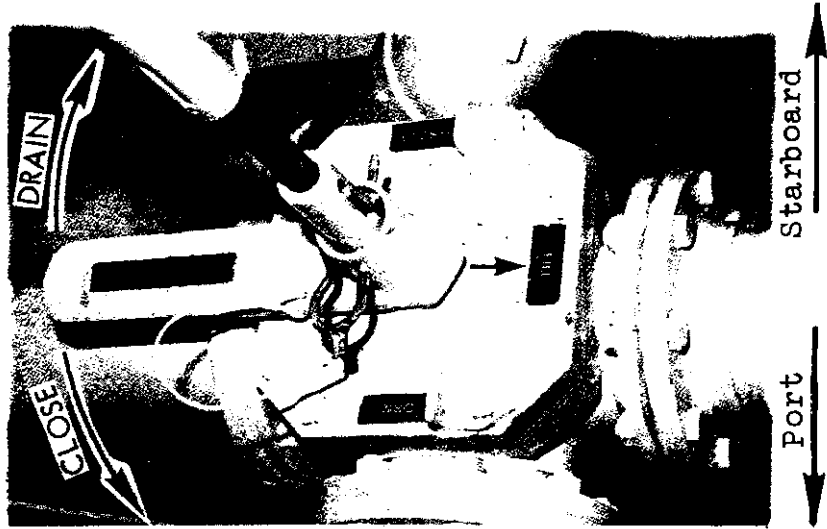

FIGURE A-4
A.2.3.2 Manually Operated Cargo Valves. The cargo transfer manifold located in the pump room is connected to each cargo tank through a 3-way, 4-inch, 100 psi Morland ball valve. Mechanical stops allow the valve handle to rotate only 180°. The valve is CLOSED fully counterclockwise. In the FILL position (90°) the fill/discharge side of the manifold is connected to the cargo tank. When rotated fully clockwise (180°) to the DRAIN position, the pump suction side of the manifold is connected to the cargo tank. See Figure A-4.